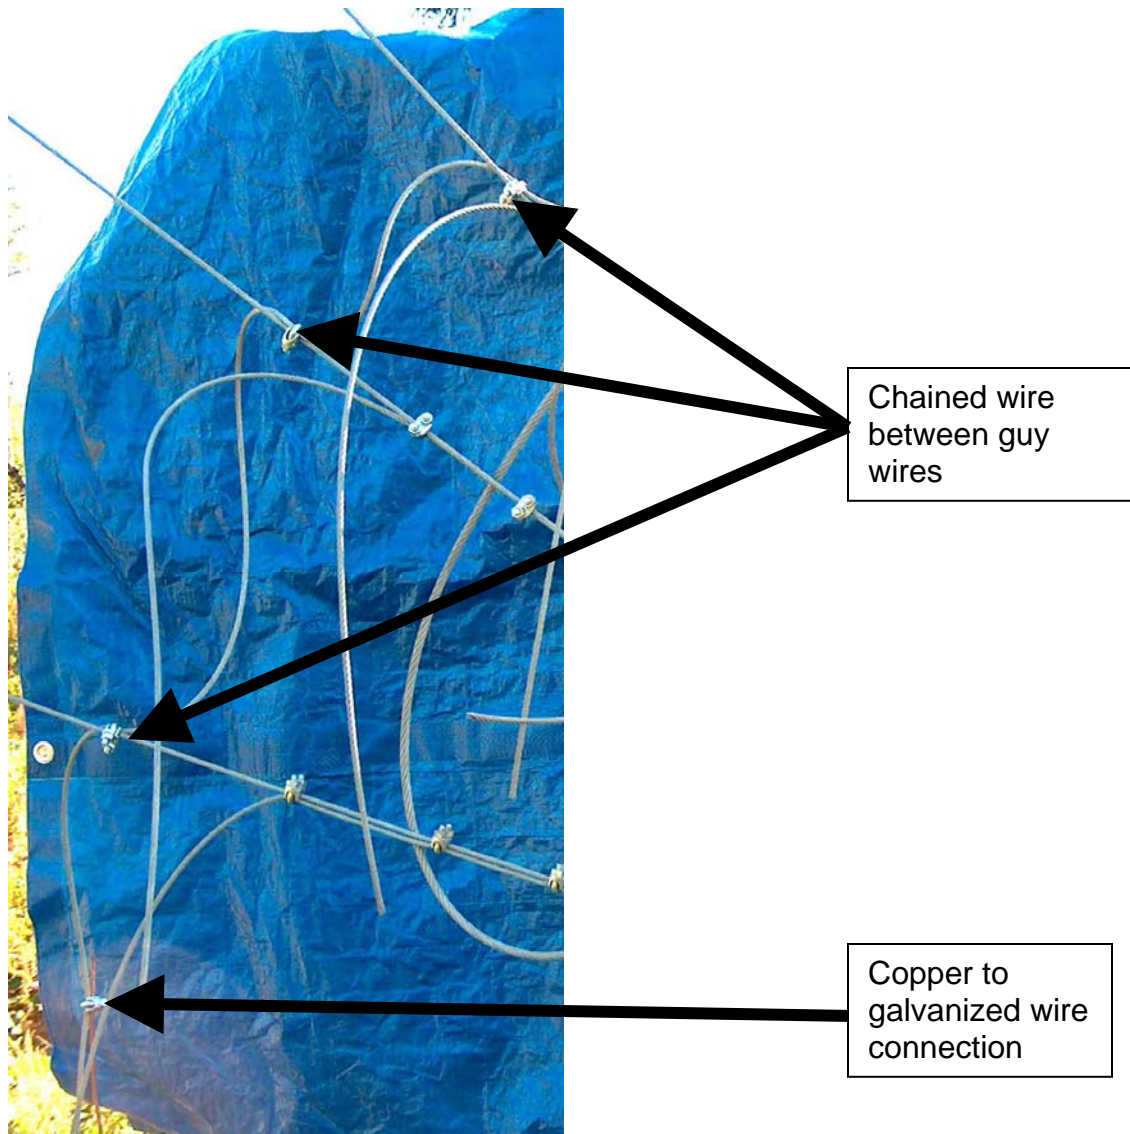

Figure 1
The tower should be grounded at each foundation point. Legal requirements in most areas only require grounding of the tower, but guy-cable grounding is advised as well. Five (5) 8'-long grounding rods and 4-8 AWG, single strand, bare copper wire will be required. Embed a grounding rod in the ground near each of the foundations, so the top of the rod is a minimum of 6 inches below the surface. Connect a ground wire between each of the outer grounding rods, making a circle around the center foundation. Next, make a connection between one of the outer grounding rods and the center grounding rod. These connecting wires must be buried a minimum of 18 inches below the ground surface (check your local regulations). At each guy cable foundation, attach a ground wire from the grounding rod to the guy cables just above the saddle clamps near the turnbuckle. Never attach the copper grounding wire directly to the working part of a guy cable – instead, chain one of the guy cable ends between each of the guy cables with saddle clamps (See Figure 1 below). Attach the end of this guy cable to the copper ground wire. Attach a ground wire between the tower base section or gusset and the center grounding rod.